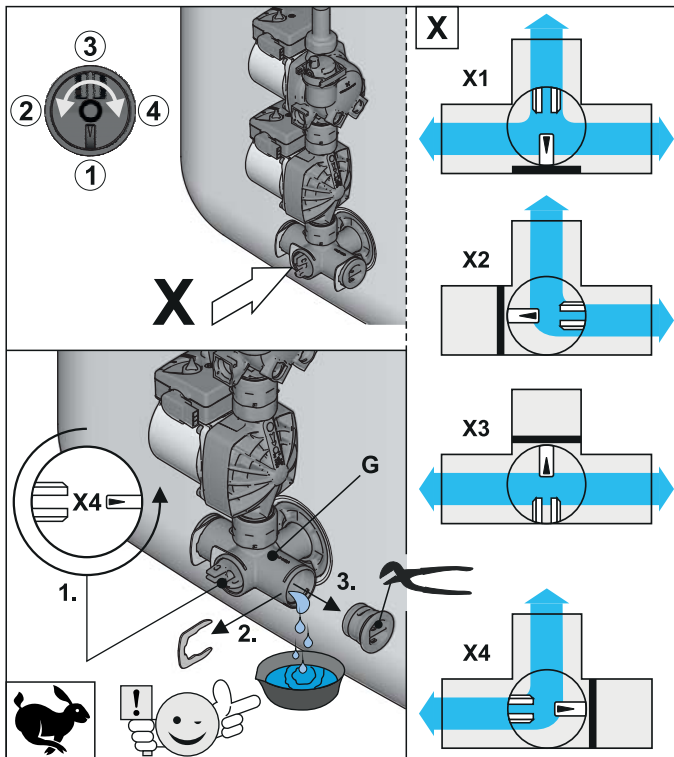

Fig. 5-5 Shutting off the valve insert and removing the blanking plug from the connecting angle
- Adjust the valve insert on the connecting angle so that the path to the blind plug is blocked off (fig. 5-5).
- Remove the blanking plug from the connecting elbow (fig. 5-5) and place a suitable collection trough beneath the unit.
- Adjust the valve insert on the connecting angle so that the flow to the drain hose is opened (also refer to fig. 5-5) and drain the water content of the storage tank.